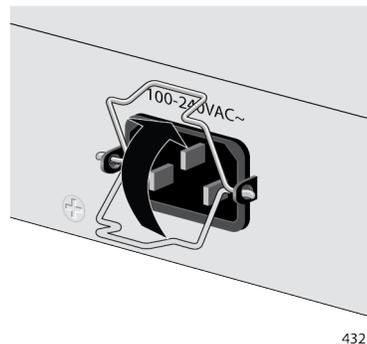

Figure 37. Raising the Retaining Clip
2. Raise the retaining clip. See Figure 37.